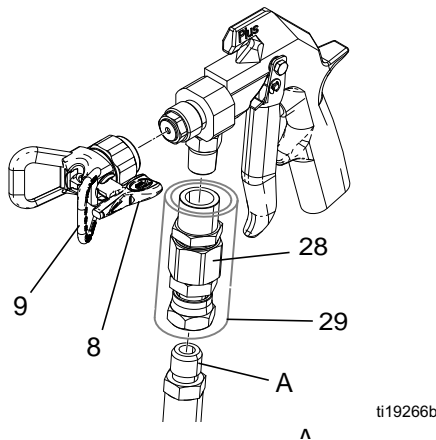

FIG. 2
1. Connect a fluid hose (A) to swivel (28). Reinstall insulating cuff (29). See Fig. 2.
2. With SwitchTip (8) and tip guard (9) removed, start the pump. Flush the pump according to the instructions supplied with it. Use the lowest pressure possible.
5. Install the SwitchTip (8) and tip guard (9). See FIG. 2.